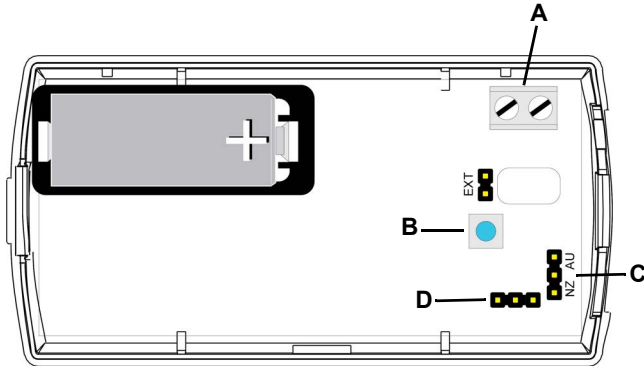

Figure 1 Temperature detector internal components
- To ensure a proper connection, line up the arrow on programming header end of the ACC17XX programming cable with programming header pin 1, shown in figure 1.